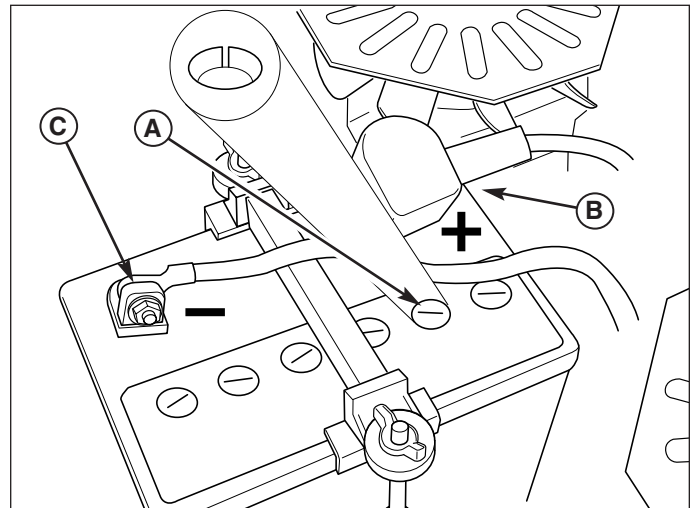

Figure 17. Battery Compartment
2. Remove the battery filler cap(s) (A, Figure 17). Fluid must be even with the split ring full mark. If not, add distilled water.